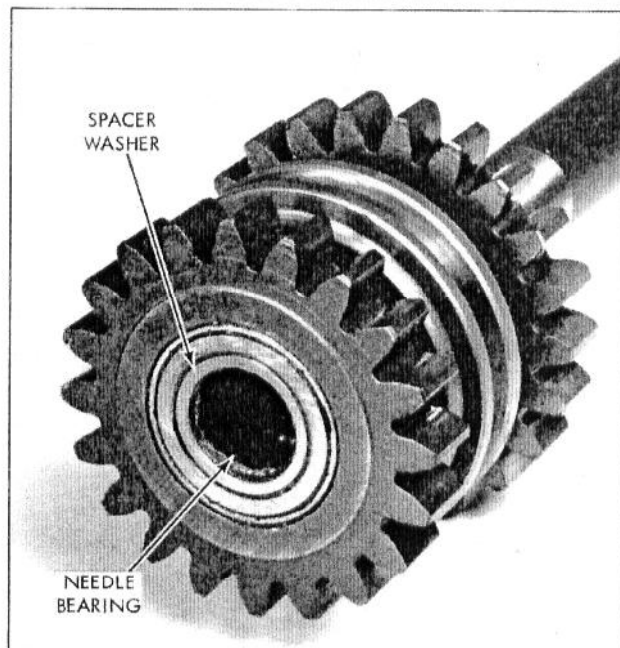

Fig. 19 - Needle Bearings Properly Installed in Input Shaft
- (1) Place one spacer washer in bearing bore in the rear end of the input shaft.
- (2) Coat the bearing bore with grease (to hold bearings in place) and insert 23 needle bearings, followed by another spacer washer. See Fig. 19.